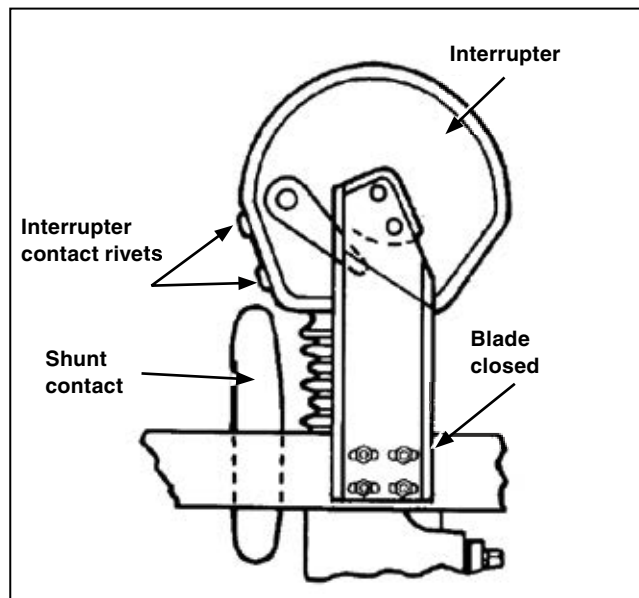

Figure 39. The blade assembly in the Opening position.
- (g) Move the blade in the *opening* direction and verify that each blade shunt contact firmly engages its respective interrupter contact rivets before the blade contacts disengage from the stationary main contact assemblies. See Figure 39. The shunt contacts may be bent as required to conform to these conditions.